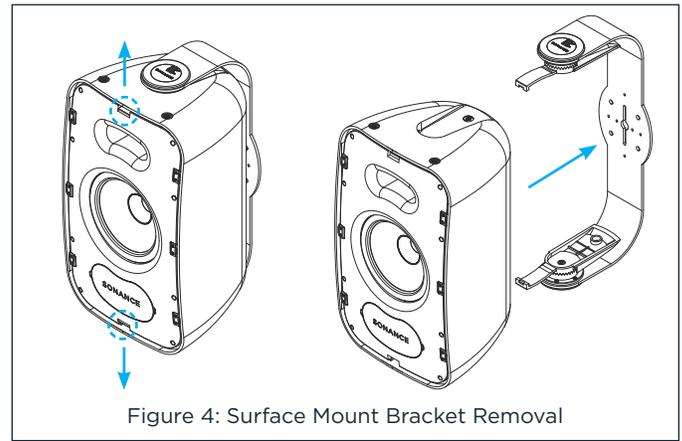

Figure 4: Surface Mount Bracket Removal
1. Remove the loudspeakers from the mounting brackets by lifting the tabs on the front panels outward and away from each other (see Figure 4).